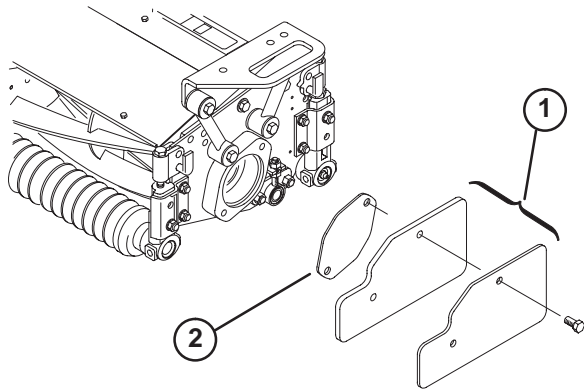
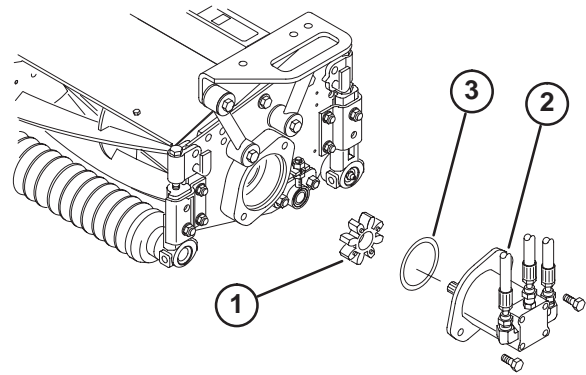

Figure 22
Figure 23
2. Remove weights and gasket (Fig. 22) from inside end of right hand cutting unit. Remove plug from bearing housing on outside end of right hand cutting unit and install weights and gasket. Locate spider coupling (Fig. 23) shipped in bearing housing.